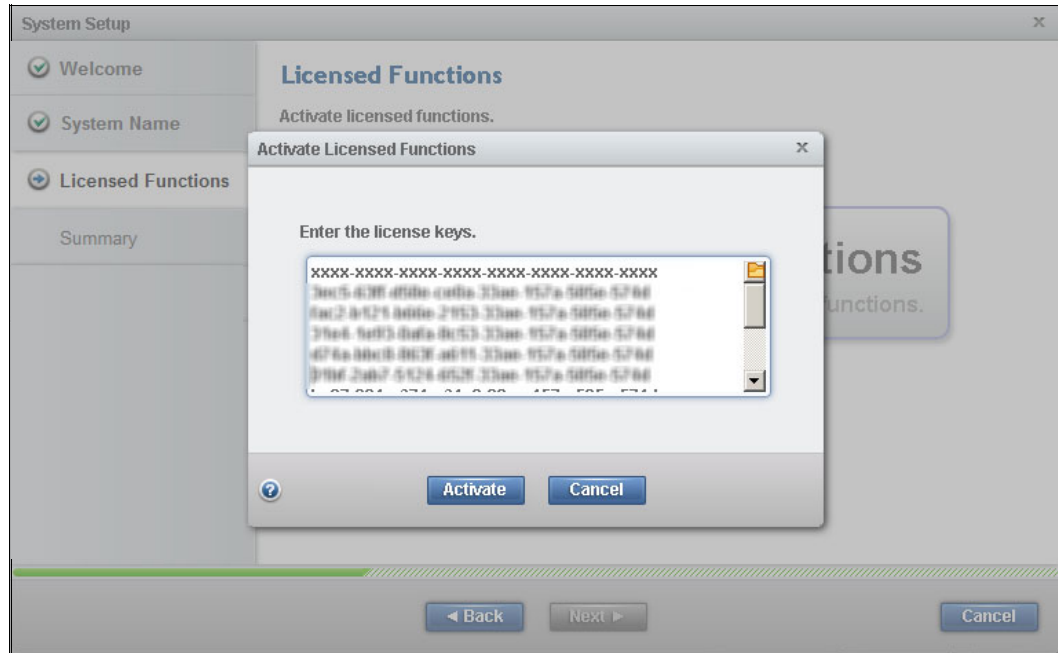

Figure 9-3 Add the license keys
- After you enter all of your license keys, click **Activate** to start the activation process, as shown in Figure 9-3.